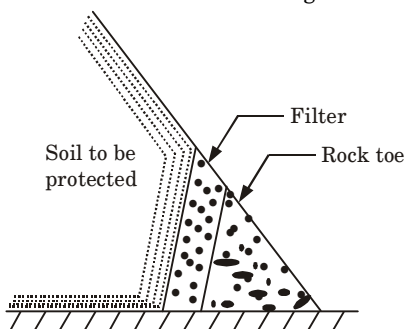

Fig. 2.25.1. Use of filter at the toe of an earth dam.
4. For example, consider the earth dam section shown in Fig. 2.25.1.
6. Hence, for the safety of the structure, a filter should be placed between the fine soil and the rock toe as shown in Fig. 2.25.1.